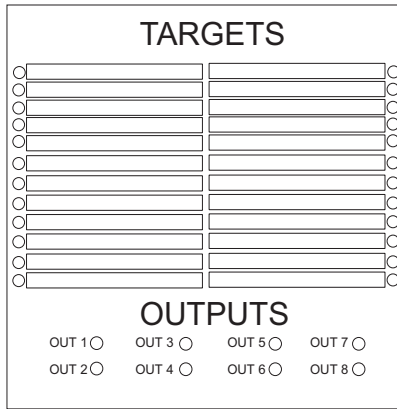

Figure 6-2 M-3915 Target Module
3. Repeat step 2 for each of the remaining target and output LED's shown in Figure 6-2.